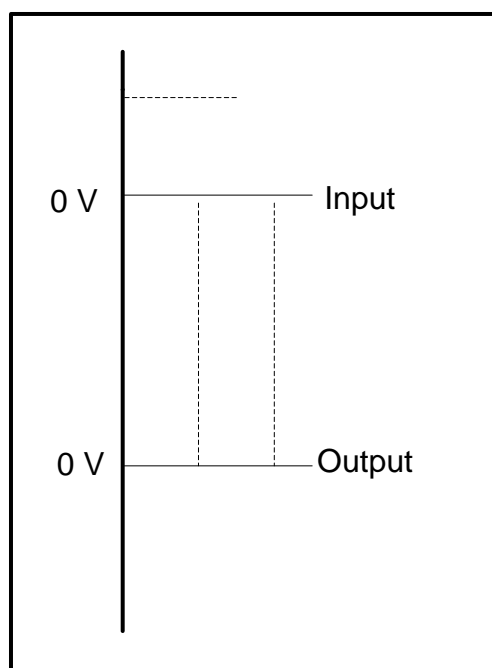

FIGURE 7.3: OUTPUT WAVEFORM
7.7.1 Draw the input and output waveforms on the same Y-axis, as shown in FIGURE 7.3 below.